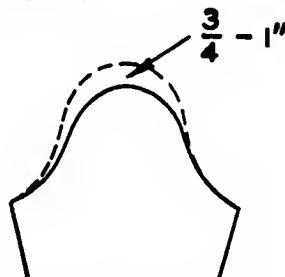

Fig. 85. Sleeve tapering.
l. Some tailors add  $\frac{3}{4}$  to 1 in. at the top of the sleeve tapering to the notches for fitting purposes (Fig. 85).